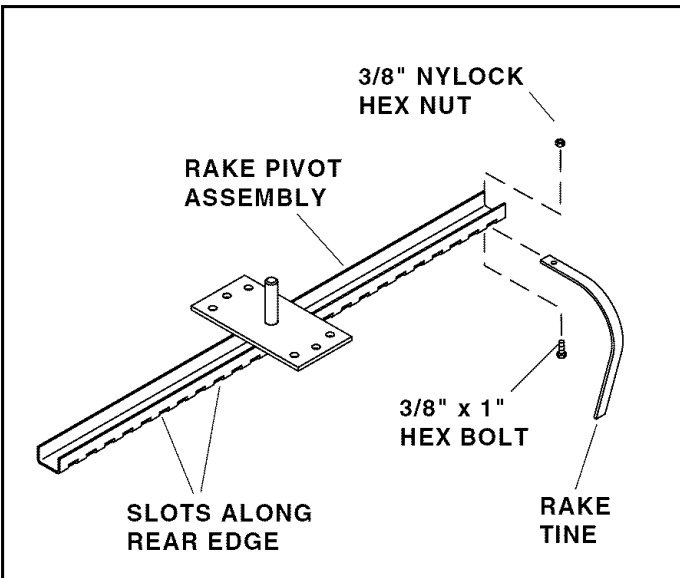

FIGURE 1
1. Insert the rake tines into the slots at the rear of the rake pivot assembly and attach using a 3/8" x 1" hex bolt and 3/8" Nylock hex nut for each tine. **Tighten securely.** See figure 1.